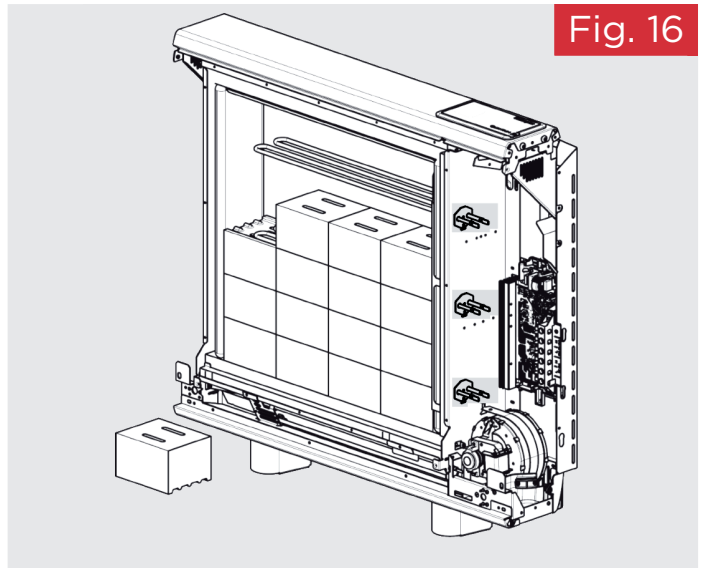

Fig. 16
16. Fit the fourth row of energy cells above the third row in the upside position. Again, the first energy cell should be positioned firmly against the right-hand insulation, and the second energy cell should be positioned firmly against the left-hand insulation. (Fig. 16). Repeat for the fifth and sixth rows of energy cells built around the third element to complete the core build.